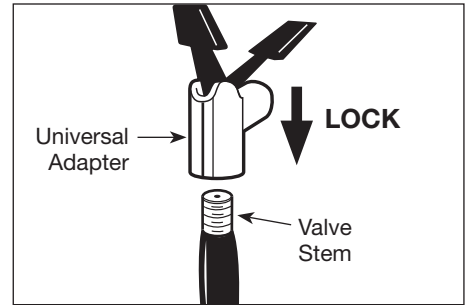

Figure 4 - Lock Universal Adapter Securely
2. When the universal adapter is firmly in place, press the locking lever down. (See Figure 4).